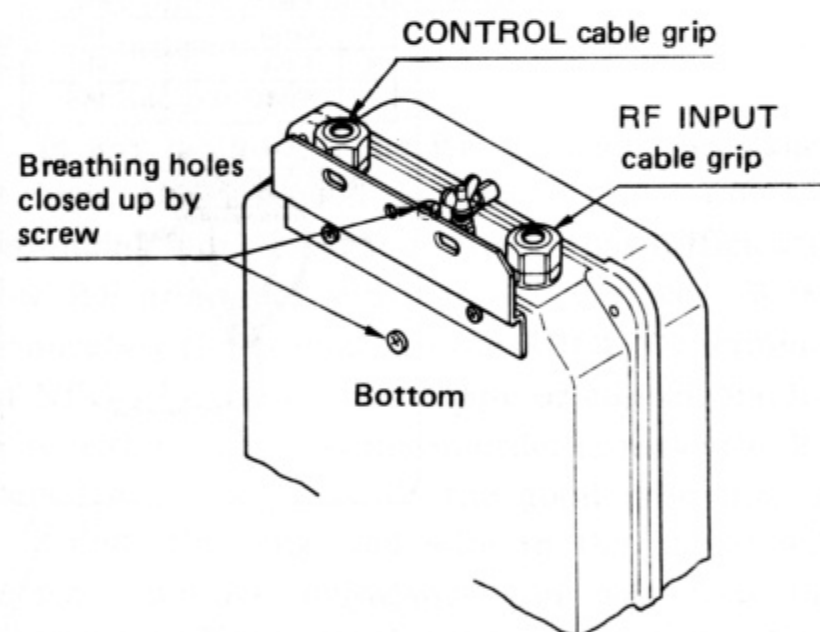

Figure 4.7 Positions of Breathing Holes
1. For prevention against the dewing by the temperature difference, install the tuner so that either face with breathing hole shown in Figure 4.7 becomes the lower side (ground side), and be sure to remove the screw in the hole on the face at the lower side.